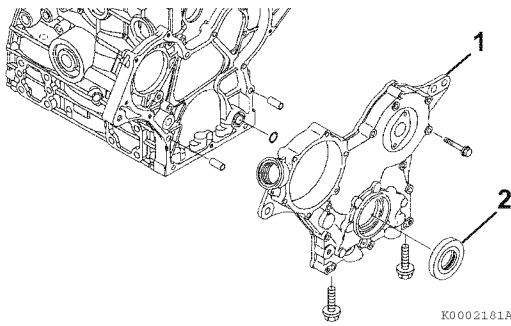

Figure 6-63
1. Remove the seal (**Figure 6-63, (2)**) from the gear case cover (**Figure 6-63, (1)**).
2. Apply a continuous bead of ThreeBond Liquid Gasket No. 1212F, YANMAR Part No. 977770-1212F to the outside diameter of a new oil seal (**Figure 6-63, (2)**).